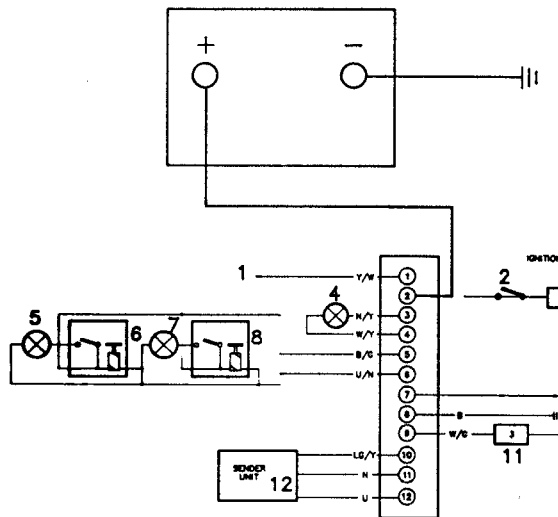

Figure 8
2. Connect positive lead from 12 volt slave battery terminal 2 as shown in figure 8 and switch on ignition. This should simulate the operation of the light switch and activate the rear door locks.